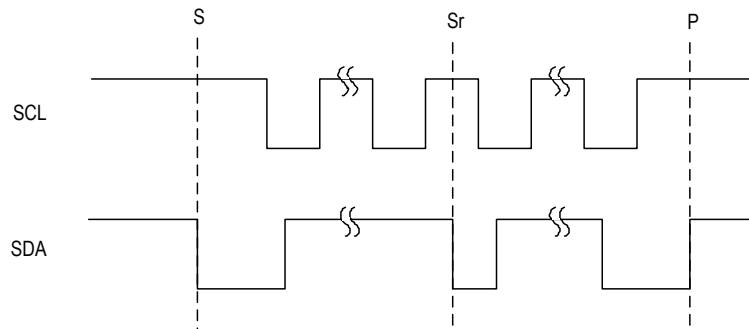

Figure 7. I²C START, STOP, and REPEATED START Conditions
When writing to the MAX77348 using I²C, the master sends a START condition (S) followed by the MAX77348 I²C write address. After the address, the master sends the register address of the register to be programmed. The master then ends communication by issuing a STOP condition (P) to relinquish control of the bus, or a REPEATED START condition (Sr) to communicate to another I²C slave. See Figure 7.